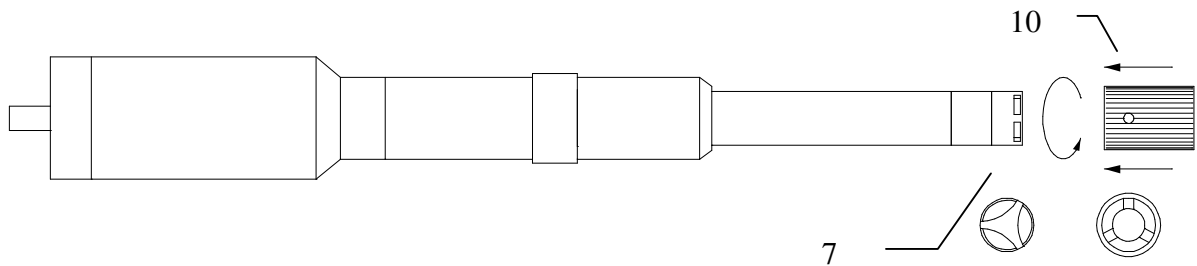

Fig. 7. Disassembly of weatherproof microphone.
To disassembly the weatherproof microphone proceed in reverse order to the assembly, remembering, however, about using a key (10) to remove the SM protective grid (7) (Fig. 7).